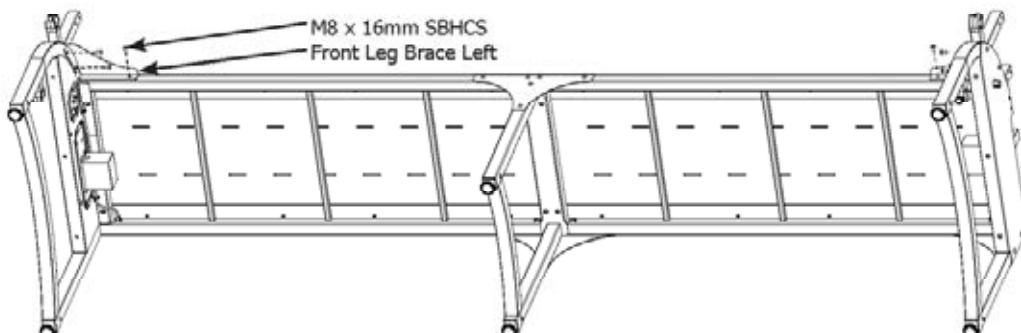

Fig. 4-2
**4-3:** Attach the Front Leg Braces to the Table Assemblies and Frame Ends. (Fig. 4-2)